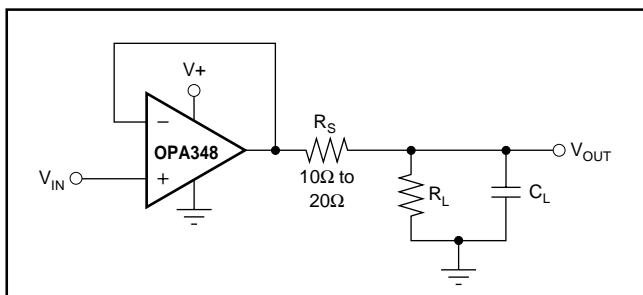

FIGURE 5. Series Resistor in Unity-Gain Buffer Configuration Improves Capacitive Load Drive.
The OPA348 in a unity-gain configuration can directly drive up to 250pF pure capacitive load. Increasing the gain enhances the amplifier’s ability to drive greater capacitive loads (see the typical characteristic “Small-Signal Overshoot vs Capacitive Load”). In unity-gain configurations, capacitive load drive can be improved by inserting a small (10Ω to 20Ω) resistor, RS, in series with the output, as shown in Figure 5. This significantly reduces ringing while maintaining DC performance for purely capacitive loads. However, if there is a resistive load in parallel with the capacitive load, a voltage divider is created, introducing a Direct Current (DC) error at the output and slightly reducing the output swing. The error introduced is proportional to the ratio RS/RL, and is generally negligible.